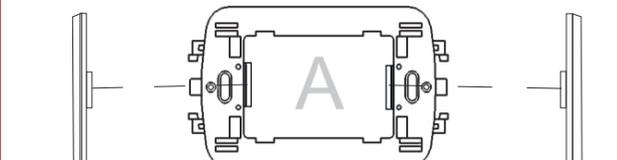

Fig. 5
**WARNING:** In case the **Life** detector gas have to receive a AVE plates series Banquise or Noir, VIMAR plates series Idea or Idea Rondò, BTICINO plates series Matix, insert into the lateral slot the adapt "Fins" equipped (Fig.5).